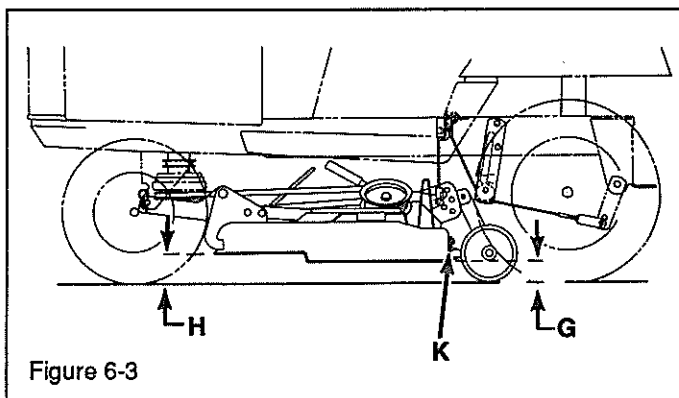
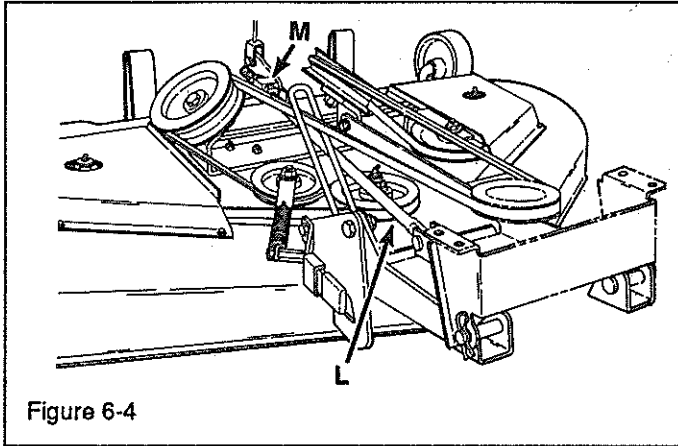
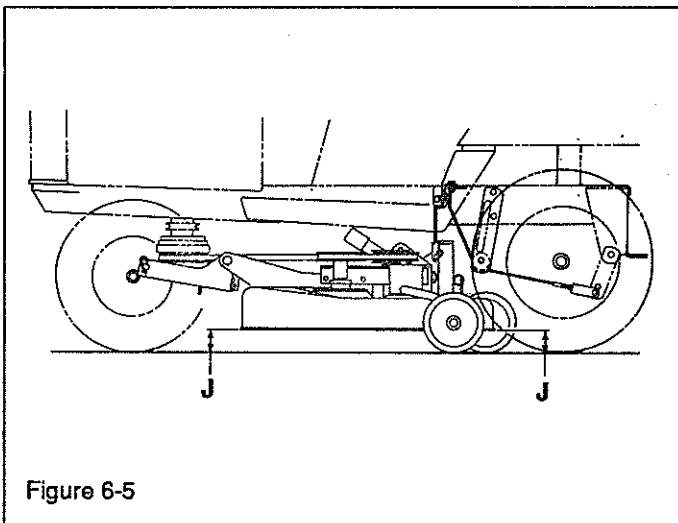

Figure 6-3
Figure 6-4
Figure 6-5
- Measure height (H, Figure 6-3) and (G) along bottom surface of mower base. Front of deck (H) should be 1" higher (25 mm) than the rear (G). If not, adjust rod length (L, Figure 6-4) at pivot (M).
- a. Measure height (G, Figure 6-3) at both sides of deck.
- b. If mower is not level, loosen gage wheel bracket (K) and adjust bracket height.
- c. Level deck from front to rear. Measure the distance from the front edge of the blades to the ground and from the rear edge of the blades to the ground (J, Figure 6-5).